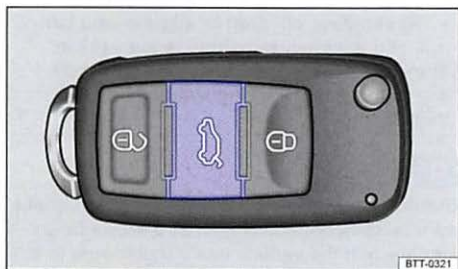

Fig. 27 In the remote control vehicle key: button to unlock and open the rear hatch.
- Briefly press the  button on the remote control vehicle key ⇒ **fig. 27** to *unlock* the rear hatch.